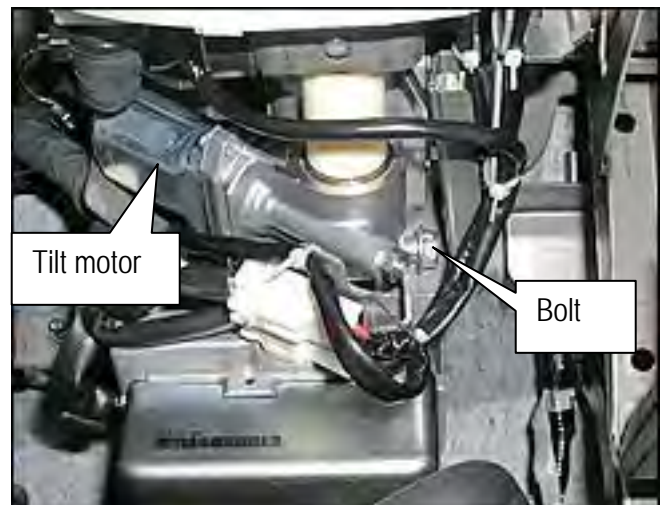

Figure 22
14. Remove the bolt shown in Figure 22.